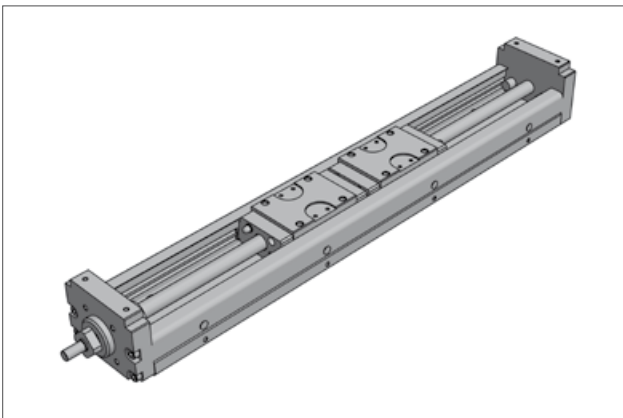

Figure 5.11 — AXBG – profile with carriages
- U - shaped steel profiles as base material with internal carriages (Figure 5.11)